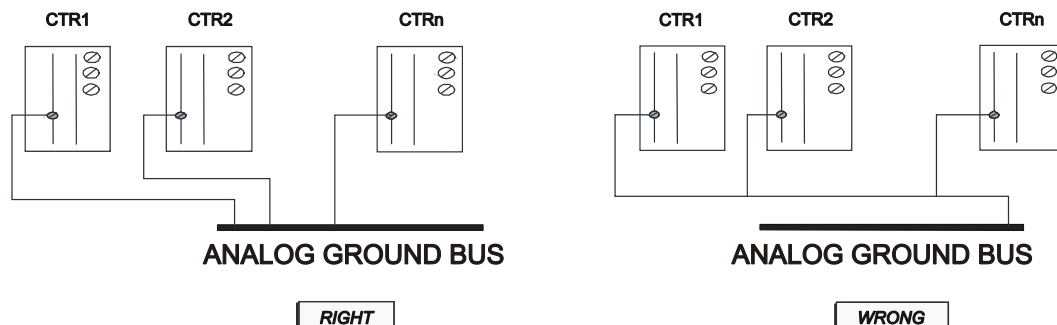

Figure 9.3 – Analog Grounding Connection (Terminals: 10,33,38)
- Analog Grounding Bus: It corresponds to the bus where the analog input and output return (-) and the internal 24 Vdc power supply are connected. The analog grounding of each CD600 Plus (see Fig. 8.4 - pg. 8.5) should also be connected to the bus (see Fig. 9.3).